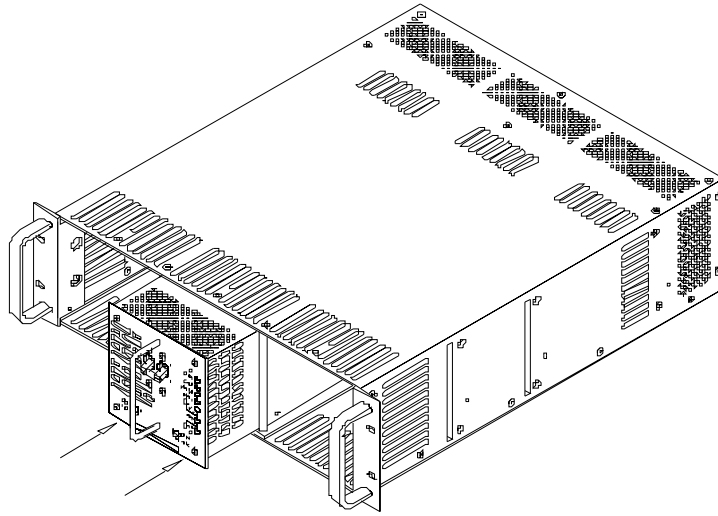

FIGURE 6. MODULE INSERTION, STEP E
- E. Continue to slide the module in by applying forward pressure to the handle. Slight resistance will be felt as the module connectors engage with the mating connectors on the rack adapter intermediate plate. Continue to apply steady but firmer pressure to overcome the insertion force of the various connectors. It is recommended that once connector engagement commences the installer should apply pressure using equal force with the thumbs of both hands to ensure that excessive force is not applied (Figure 6).